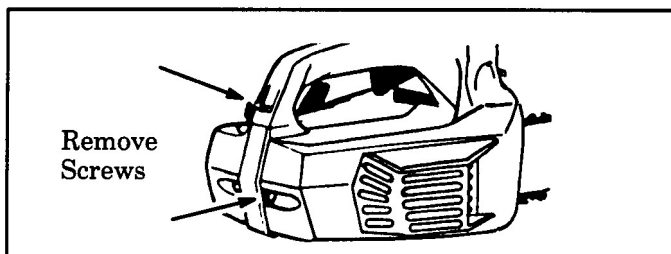

Figure 38
3. Remove the screws on the rear of the unit. Figure 38.